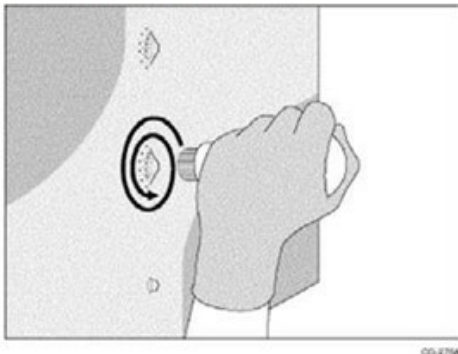

Figure 8. Start brushing in a larger circle.
4. Use the rivet brush to brush in a circular motion around the outer edges of the air release holes. See Figure 8.